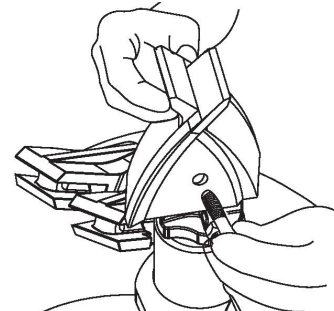

Figure 15
3. Place the pilot on the bottom of the bit, and secure with the nut and bolt. See Figure 15.